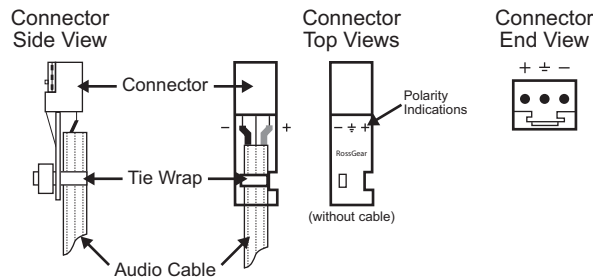

Figure 2.8 Connector Wiring for the Breakout PCB 3-pin Connectors
1. Insert a wire to the designated polarity slot on the connector of the rear panel. (**Figure 2.8**)